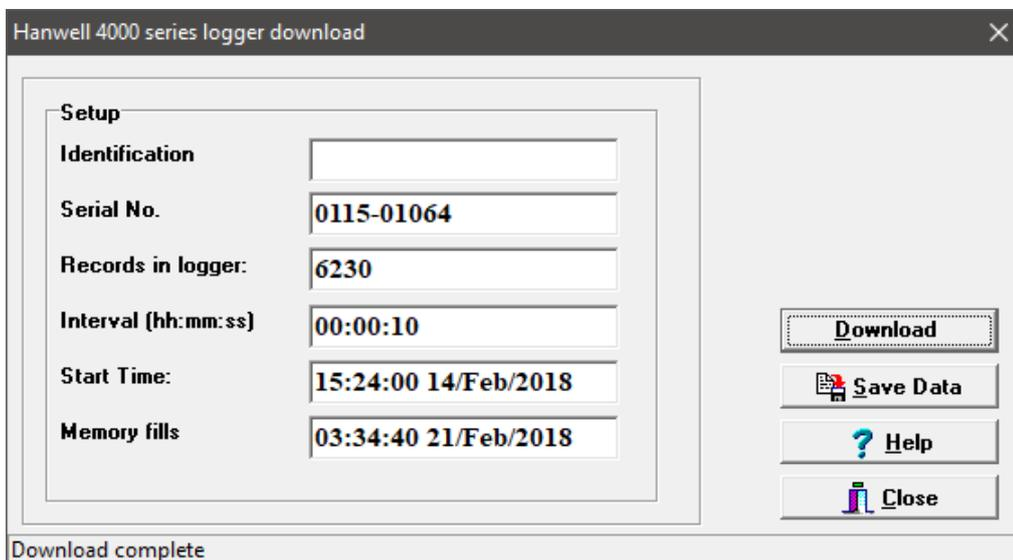

Figure 15
- The **Save Data** button becomes active and '**Download complete**' is displayed in the bottom left-hand corner of the window when the Download is complete. See Figure 15 below: